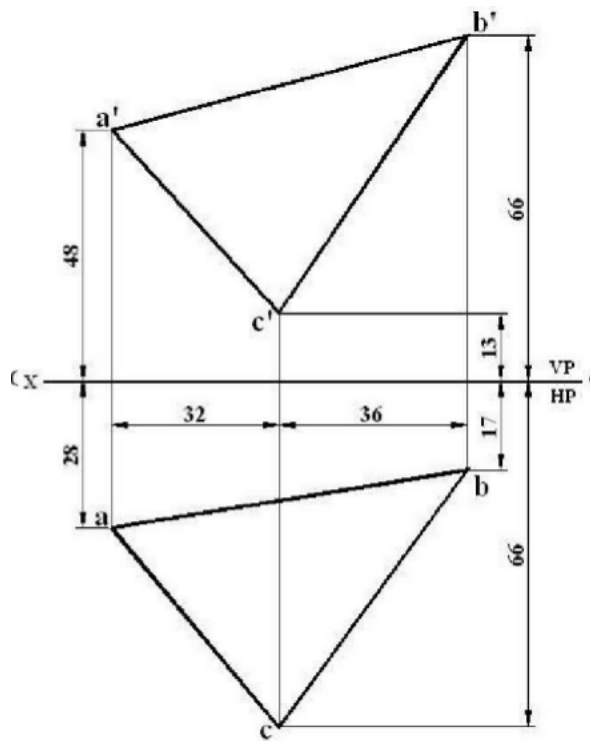

Figure P4.6
6. Determine the true shape of the triangular plane **ABC** shown in **Figure P4.6** and its inclination with the VP. Also draw its true shape.